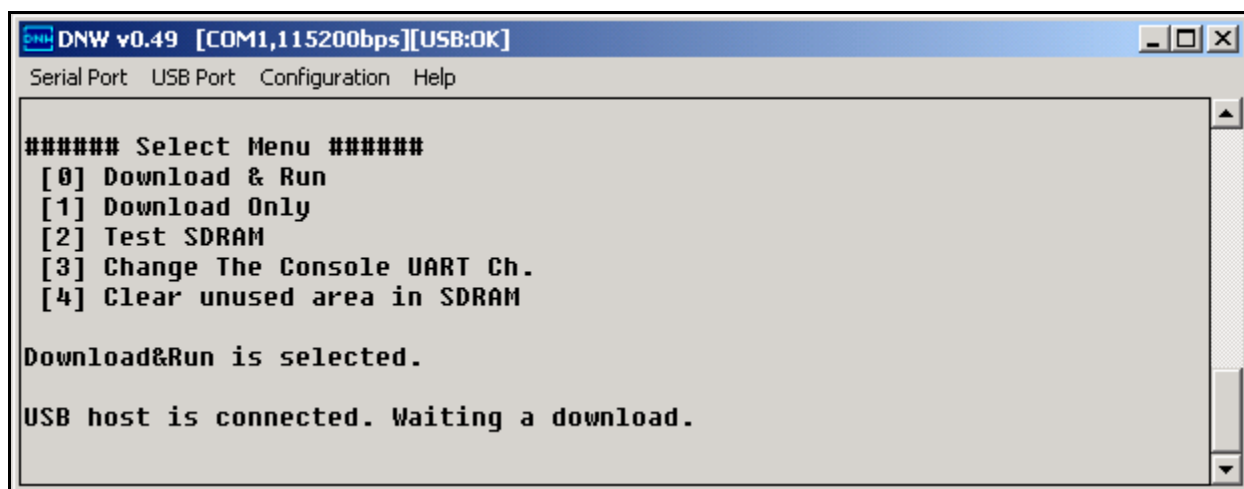

Figure 6-11 Download & Run
18. Please enter '0' to Download and Run the Image on the board. The DNW application window will now appear on your screen as shown below in the figure 6-11.